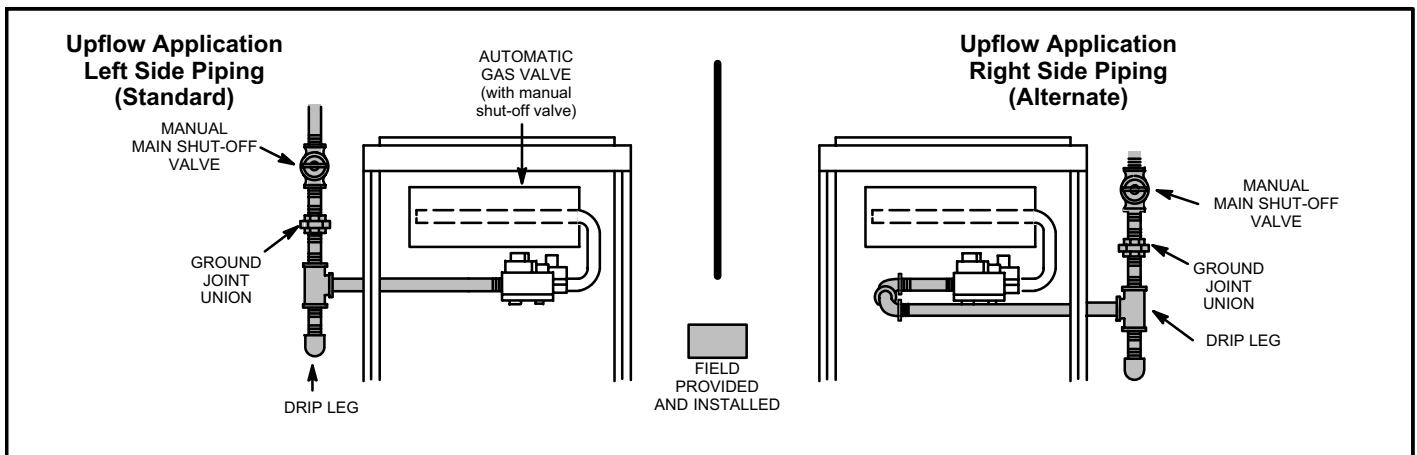

FIGURE 29
- 1 - Gas piping may be routed into the unit through either the left- or right-hand side. Supply piping enters into the gas valve from the side of the valve as shown in figures 29 and 30.
- 3 - Gas piping must not run in or through air ducts, clothes chutes, chimneys or gas vents, dumb waiters or elevator shafts. Center gas line through piping hole. Gas line should not touch side of unit. See figures 29 and 30.